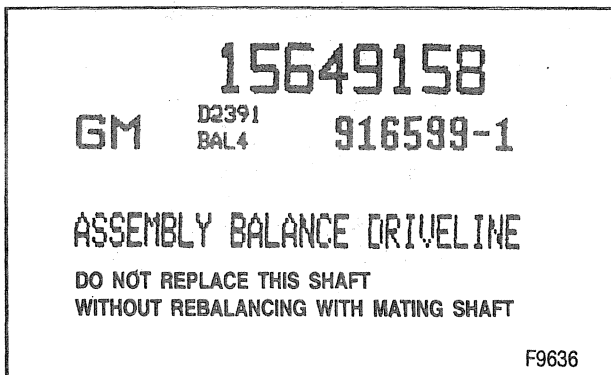

Figure 12—System Balanced Propeller Shaft Assembly Notice
- If one propeller shaft of a system balanced assembly is replaced, the mating shaft must be rebalanced with the replaced shaft. System balanced propeller shafts have a notice affixed to them similar to figure 12.